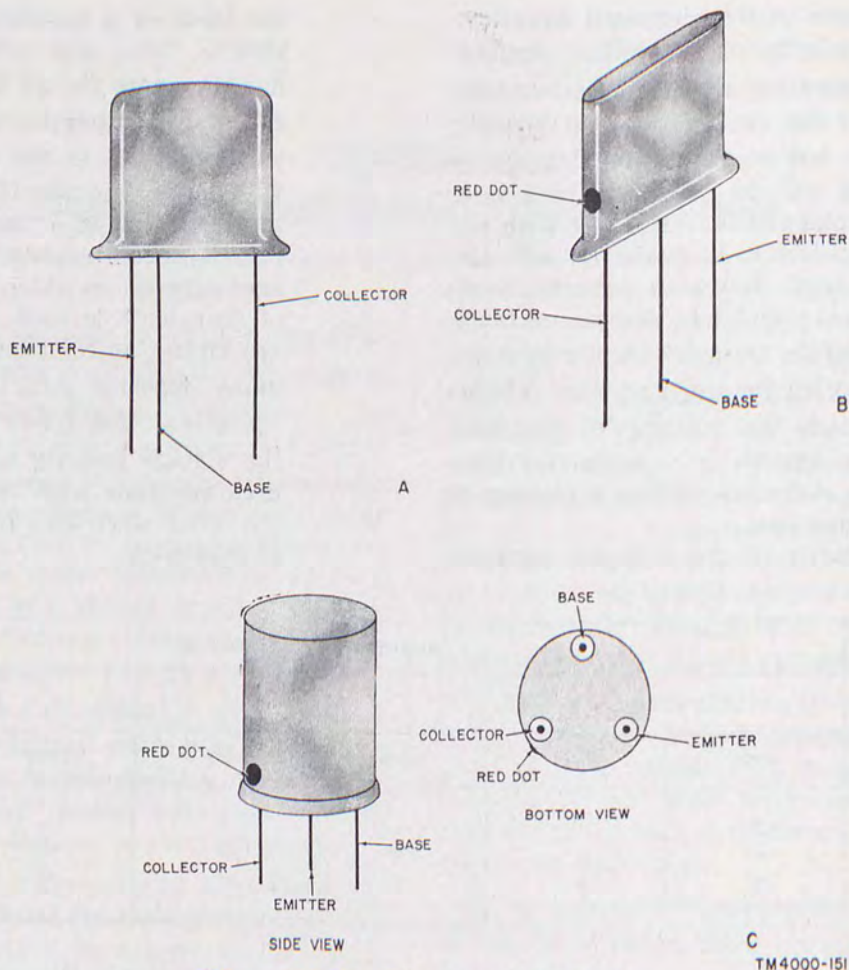
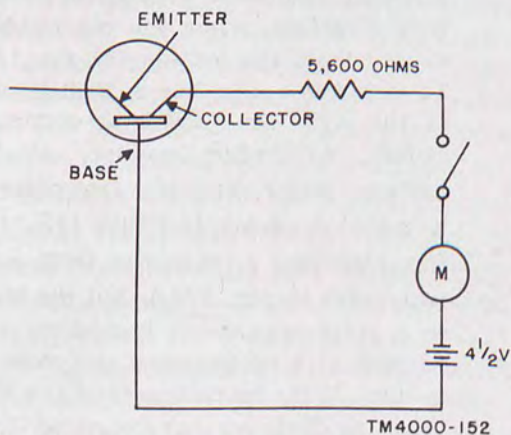

Figure 115. Identifying transistor leads.
Figure 116. Test circuit to determine transistor type.
- (3) When checking the bias voltages on any transistor, two facts must be determined. First, the leads must be identified. Second, it must be determined whether the transistor is of the *NPN* or *PNP* type. If these facts are not apparent from labeling they can usually be determined by the following means: To identify the leads examine their spacing at the point where they enter the transistor. If they are unequally spaced (A, fig. 115), the closer leads are the emitter and base with the emitter being at the outside. The third lead, widely spaced from the other two, is the collector. If the leads are equally spaced, look for a red dot on one edge of the transistor (B, fig. 115). The lead closest to the dot is the collector while the base and emitter leads follow in order. If the transistor is cylindrical in shape, look for a red dot on the side at the lower edge. The
pin adjacent to this dot is the collector. The base and emitter follow in a clockwise direction, when the transistor is viewed from the bottom (C, fig. 115). To determine whether a transistor is of the *NPN* or *PNP* type connect a switch, 5,600-ohm resistor, 4½-volt battery, meter, and the transistor to be tested as shown in figure 116. (Before removing a transistor from a circuit, refer to par. 324.) Set the meter to a scale capable of indicating a dc current of 1 milliamperere and close the switch. If the transistor is of the *NPN* type, the diode section composed of the base and collector regions will be biased in the forward direction. With forward bias the diode can pass a comparatively large current. The meter will indicate approximately 1 milliamperere. If the transistor is of the *PNP* type the diode section will have a reverse bias applied. In this case only a small leakage cur-